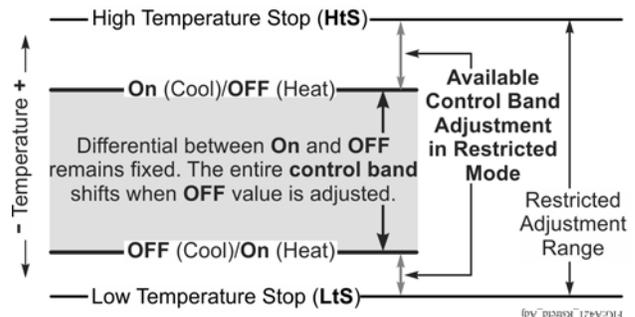

Figure 12: Adjustment Behavior in Restricted Adjustment Mode
You can restrict user adjustment of the A421 control to either just OFF value (control band) adjustment within a defined range (Figure 12) or no user adjustment at all.
- The **OFF** value can only be adjusted to values that maintain the entire control band within the restricted temperature adjustment range defined by **HtS** and **LtS**. See Figure 12.
2. Select the **OFF** and **On** values that define the application's required control band (Figure 12).
3. Change the **HtS** and **LtS** temperature values to define the restricted adjustment range (Figure 12).
Control adjustment is now restricted to changing only the **OFF** value, which shifts the On/OFF control band within the restricted adjustment range defined by HtS and LtS (Figure 12).